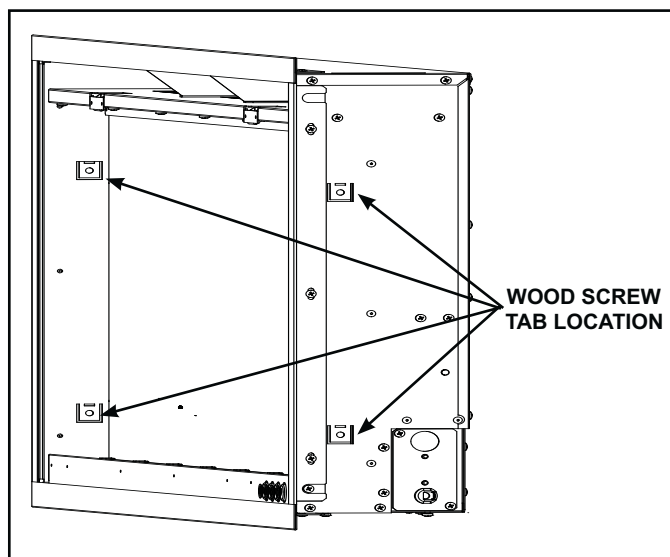

Figure 4.4 Securing the Appliance in 2 X 6 Framing
6. Once leveled, plum, and flush, secure with four (4) ST4X40 screws at the tabbed locations. See Figure 4.4.